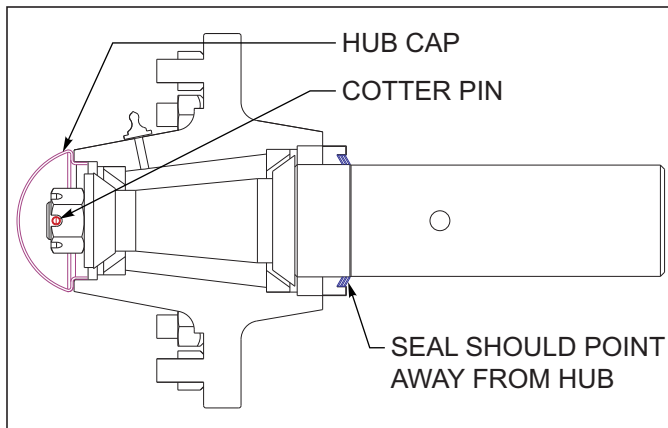

Figure 4-55: Triple Lip Seal
The triple-lip seals should point away from the hub to keep contaminants out and allow grease to pass (See Figure 4-55)
11. Install a new cotter pin and replace the hub cap. (See Figure 4-55)